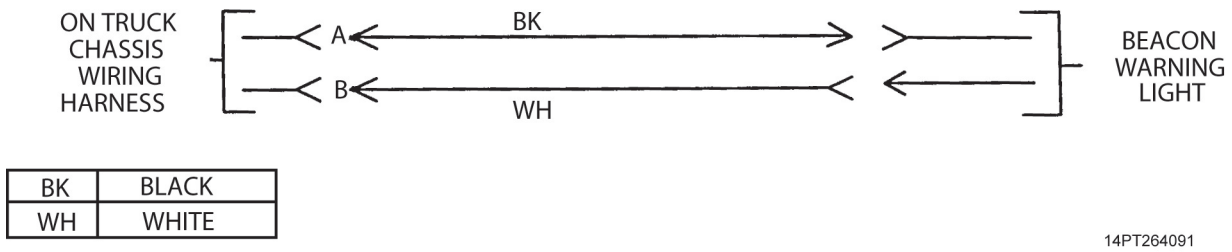

Figure 4. Beacon Warning Light Diagram.
- Figure 4 Beacon Warning Light Diagram.